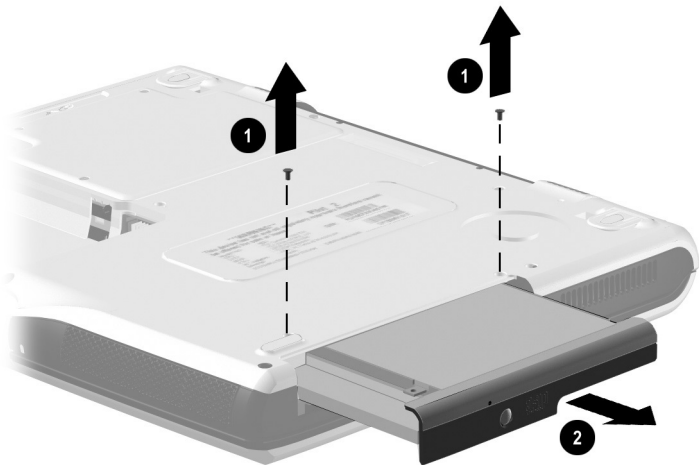

Figure 5-4. Removing the Optical Drive
- b. Remove the two PM2.0 × 5.5 screws ❶ that secure the optical drive to the base enclosure (Figure 5-4).
- c. Slide the optical drive to the right ❷ and remove it from the optical drive bay.